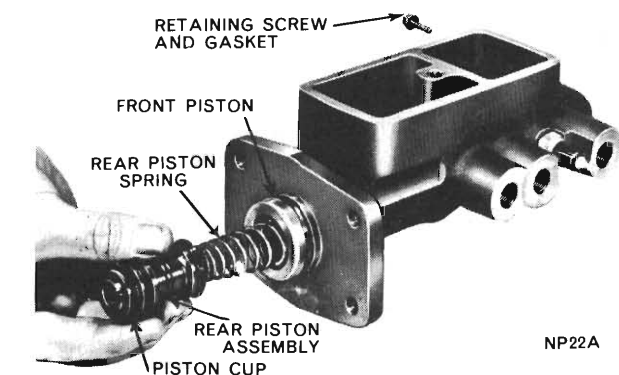

Fig. 5 - Installing rear piston assembly
(2) Centre spring retainer of rear piston assembly over shoulder of front piston. Push piston assemblies into bore up to centre piston cup. Carefully work cup into bore then push piston in up to the rear cup. Carefully work lip of rear cup into bore, then push in on piston until seated (Fig. 5).